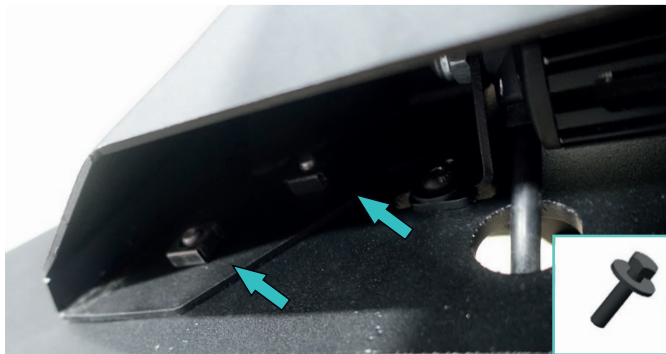

Fig.69
65. Install the cage nuts (item M) on lightbar cap (item 1) as shown in fig.69 and fix lightbar cap on both sides of the bumper using bolts M8x20 and washers 8 (item C, P) (fig.70).